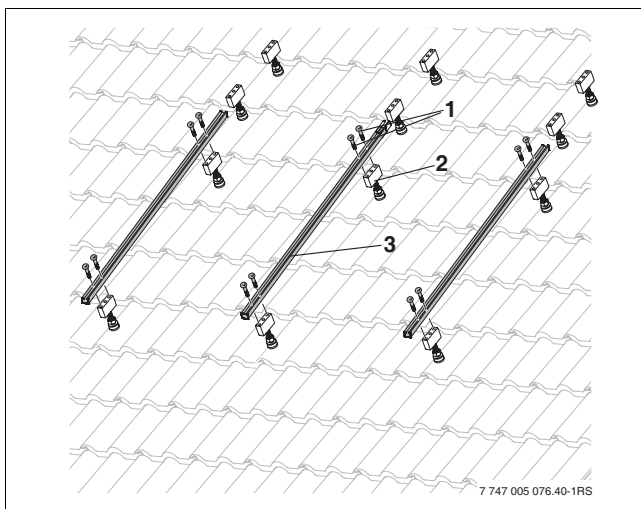

Fig. 29 Fastening the profile rail to the support block
- Secure collector profile rails (Fig. 29, [3]) with two screws each [1] to the support block [2], beginning in the lower slot.